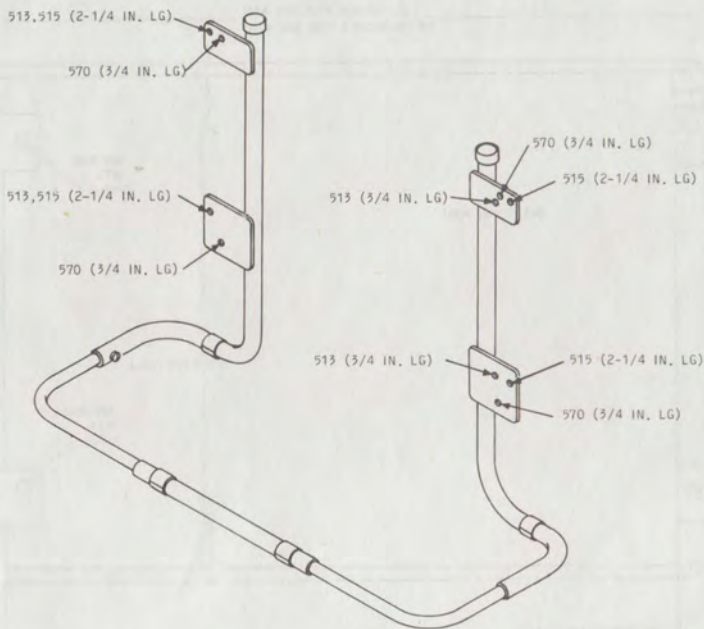

Fig. 11—77C Apparatus Mounting
3.08 The 77C apparatus mounting (Fig. 11) is similar to the 77B (MD) except the mounting plates have been enlarged to provide extra holes for mounting 570-type KSUs with one-piece backboards. The new holes will be circled in
yellow. The 77C apparatus mounting will also accept the 513- and 515-type KSUs or 570-type with 2-piece backboard. The holes used for each KSU and the length of 1/4-20 screws required are shown in Fig. 11.